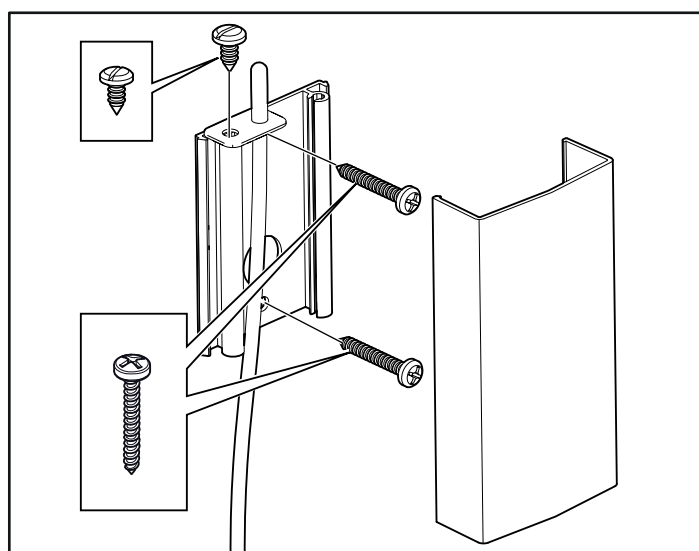
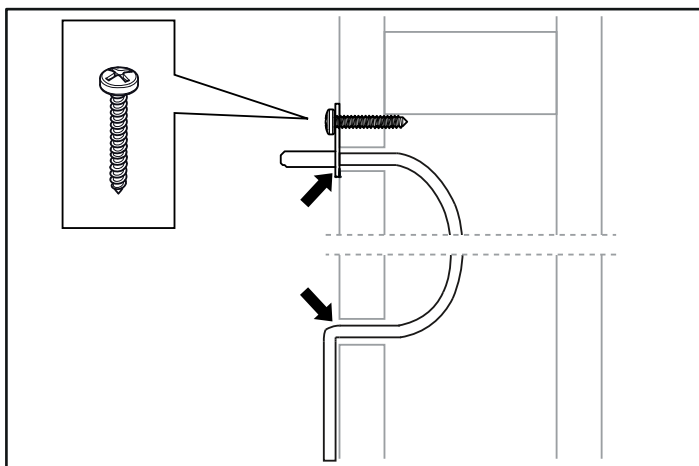

Figure 16: Installing the sensor
Figure 17: Seal any holes
13. Install the sensor on the wall see Fig 16. The thermistor wire may also be passed through the wall. Seal any holes in the wall behind the sensor, see Figure 17. The thermistor wire may be extended outside the sauna using low voltage wire (2-lead).